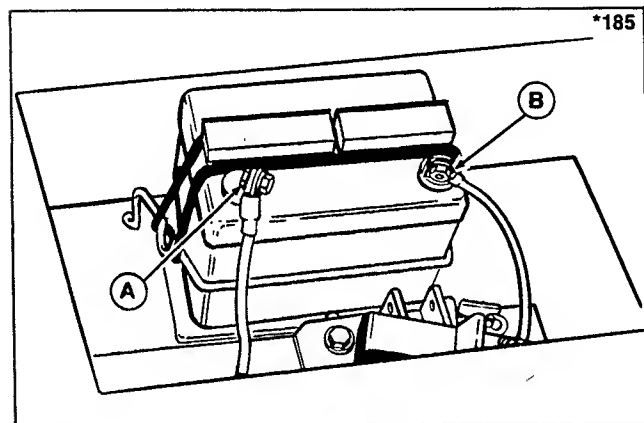

Figure 7. Battery. Shown without fuel tank for Clarity.
1. Disconnect the cables from the battery, negative cable first. A positive "+" sign is stamped on the battery next to the positive terminal. See figure 7.